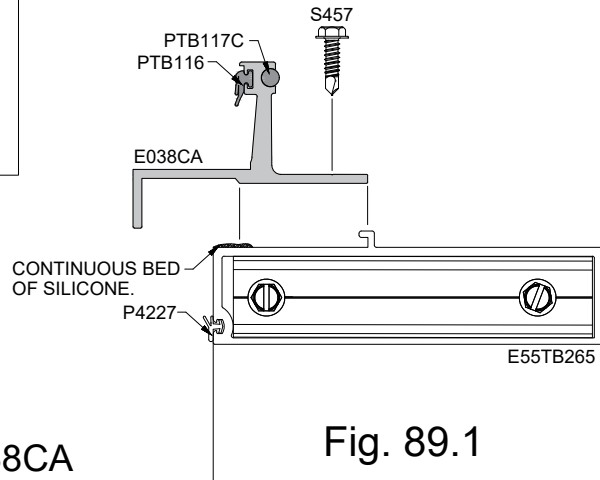

Fig. 89.1
- Step 3: Install continuous bead of silicone on top front of frame E55265. See Fig. 89.1